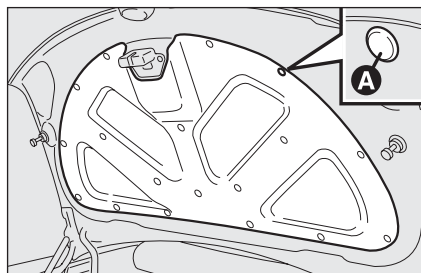

fig. 39
- ☐ open the tailgate, remove fasteners **A-fig. 39** and remove panel **B**;